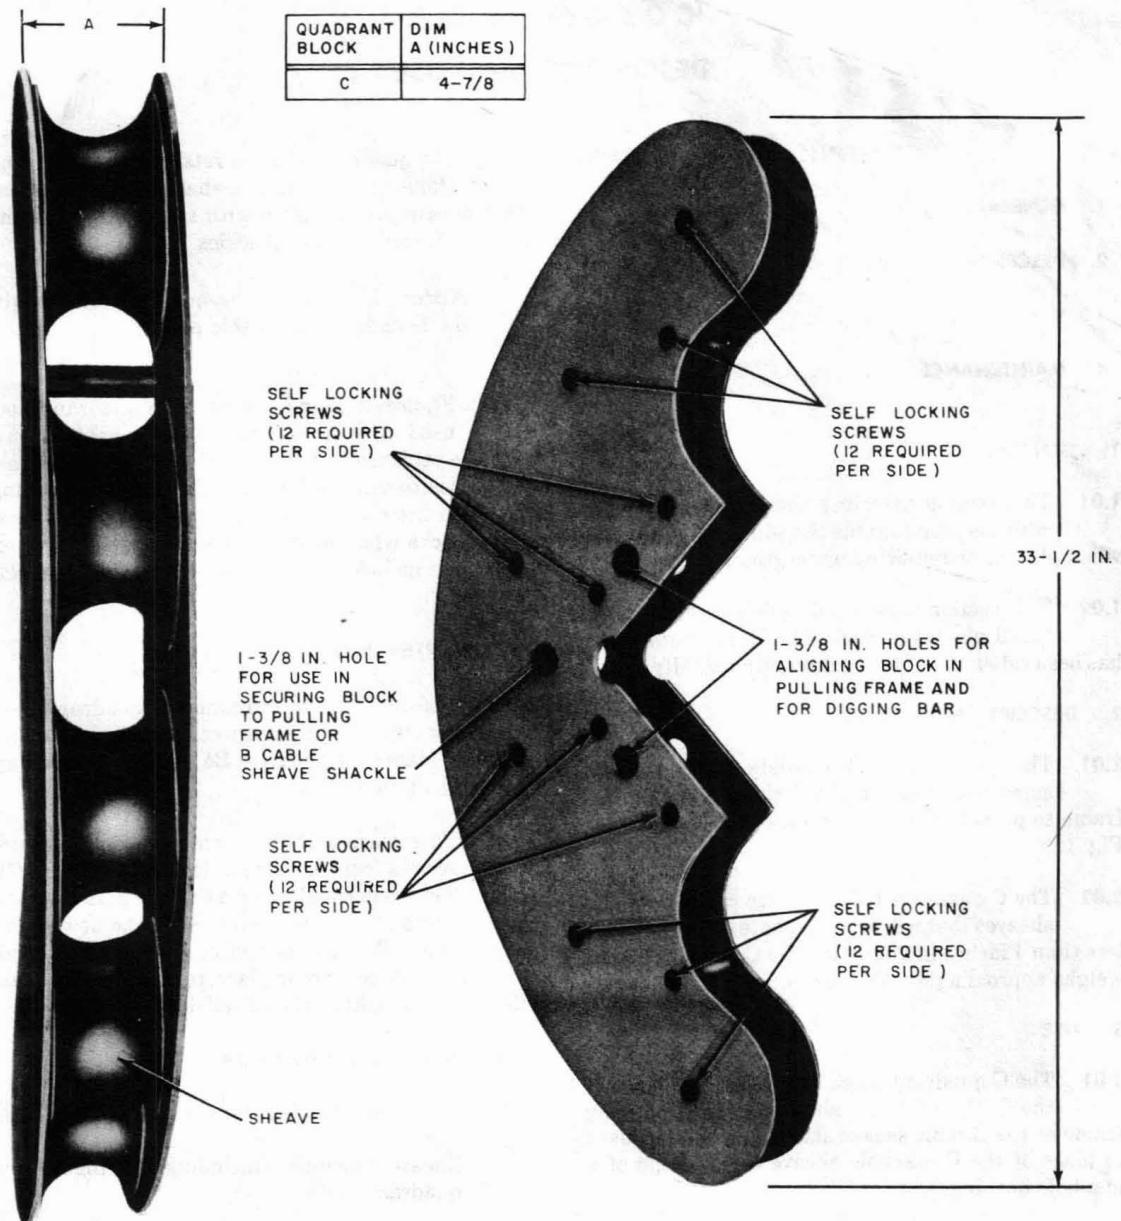

Fig. 1—C Quadrant Block
**2.01** The quadrant block consists of six sheaves supported in an arc of a circle by an aluminum frame to provide a bending radius of 24 inches. See Fig. 1.